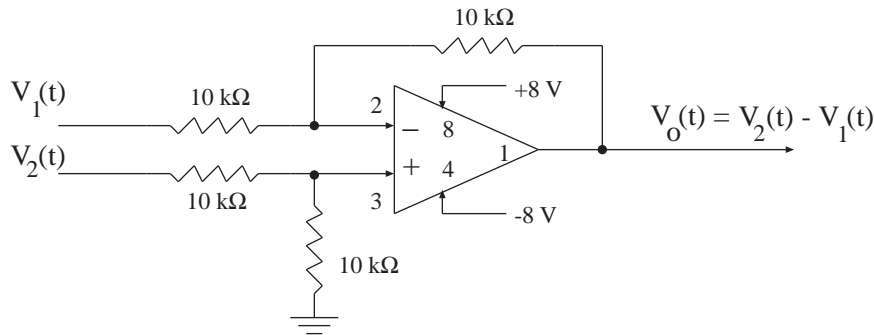

Figure 2: Difference circuit based on the LF353.
5. Implement a difference circuit using the LF353 with inputs $V_1(t)$ and $V_2(t)$ and output $V_0(t) = V_2(t) - V_1(t)$, based on Figure 2.